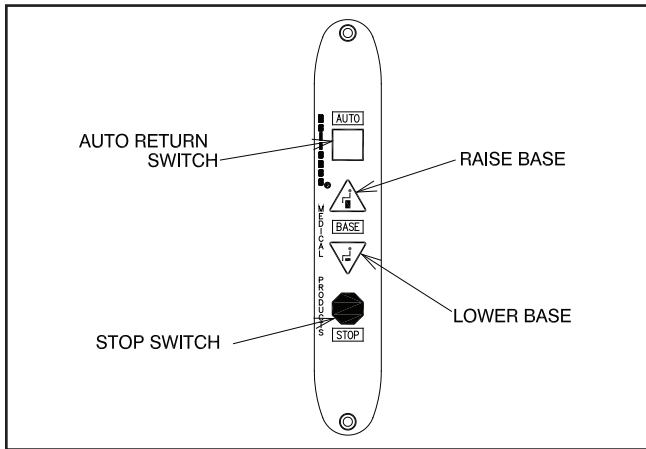

FIGURE 2
3.1.1. Depressing the STOP switch on either side of the chair back will STOP ALL movement of the chair. The STOP switch is shaped like a stop sign, and should be ORANGE in color. It is located above the text "STOP". (Refer to Figure 2).
- The chair lift may be raised or lowered by Membrane Switches on either side of the chair back (Figure 2).